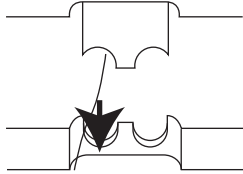

Fig 1
2. Place the cables into any two slots of the upper part of the plastic wall mounting bracket as shown in Fig.1.